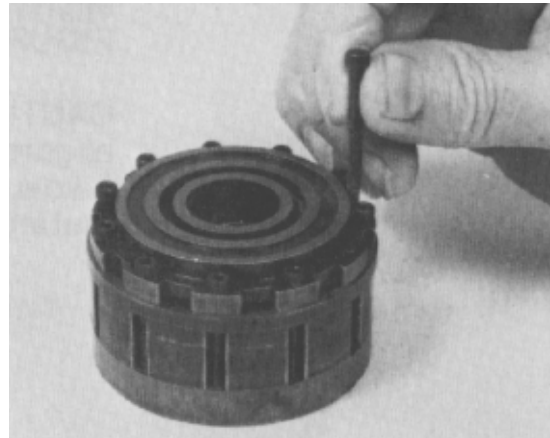

Figure 98
18. Screw the eleven hex socket head cap screws loosely into the metering package (Fig. 98).